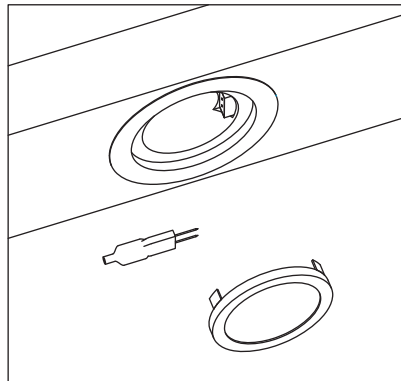

Fig 2
3. Insert the pins of lit bulb into the socket firmly. (Fig 2)